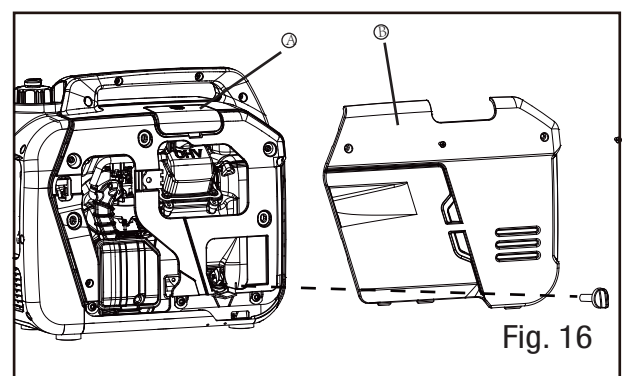

Fig. 16
2. Take the cover off of the air cleaner (Fig. 16). Remove the sponge-like air filter element from the casing. Wipe excessive oil and any dirt from inside of the air filter casing.
1. Unscrew the maintenance cover knob, and remove the cover from the side panel (Fig. 16).